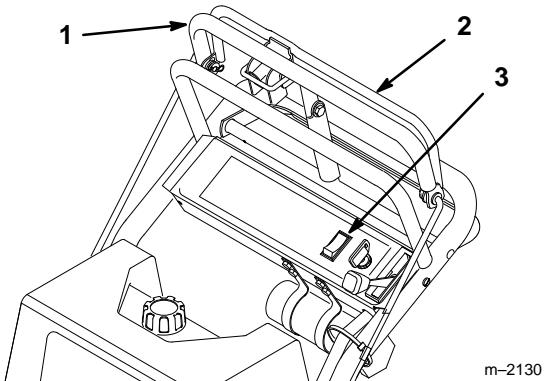

Figure 8
1. Pull on the upper control bar to stop the machine (Fig. 8).
2. To engage the blades, squeeze the blade control bail against the upper control bar (Fig. 8).
4. To disengage the blades, release the blade control bail, or push the blade control switch to the "OFF" position (Fig. 8).